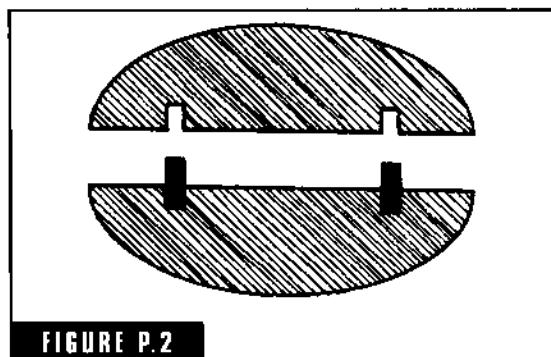

FIGURE P.2
**parted pattern** A pattern made in two or more parts (Fig. P-2).